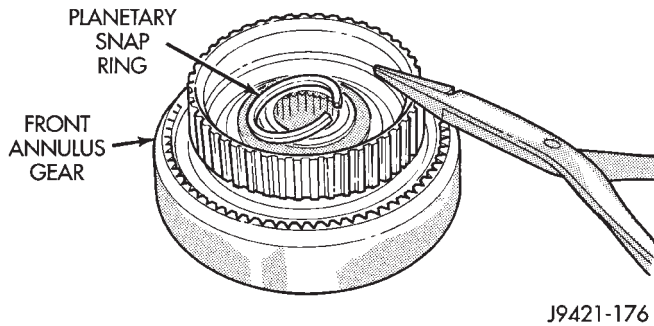

Fig. 76 Front Planetary Snap Ring Removal
(3) Remove snap ring that retains front planetary gear in annulus gear (Fig. 76).